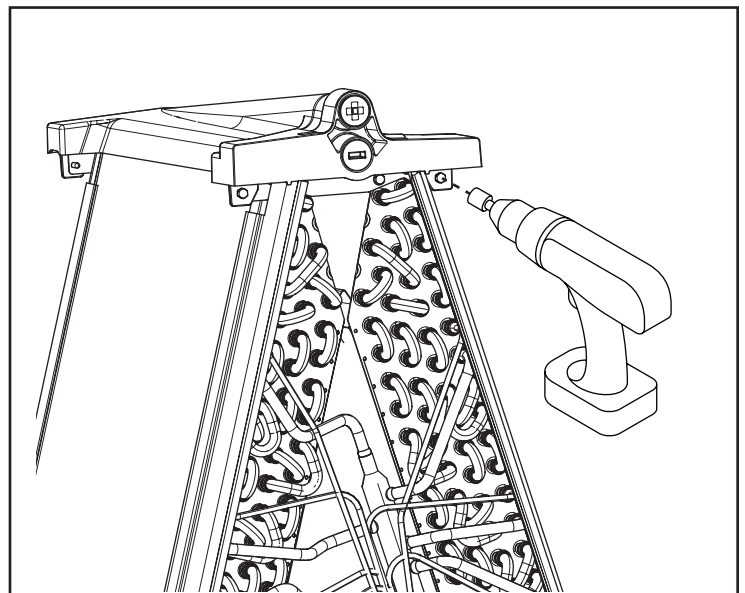

Figure 14 – Attach upflow drain pan
3. Attach the upflow drain pan using the four screws as shown in Figure 14.